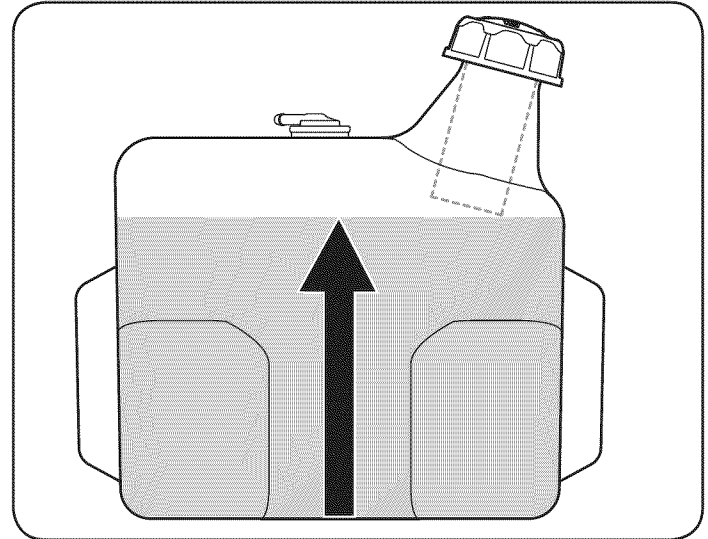

Figure 6
**IMPORTANT:** Do not overfill the tank. Fill tank to no more than 1/2 inch below bottom of filler neck to allow space for fuel expansion. See Fig. 6.